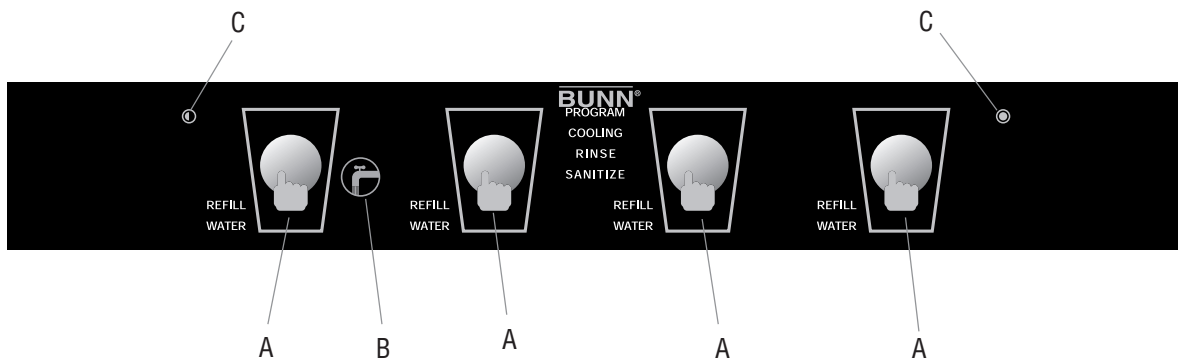
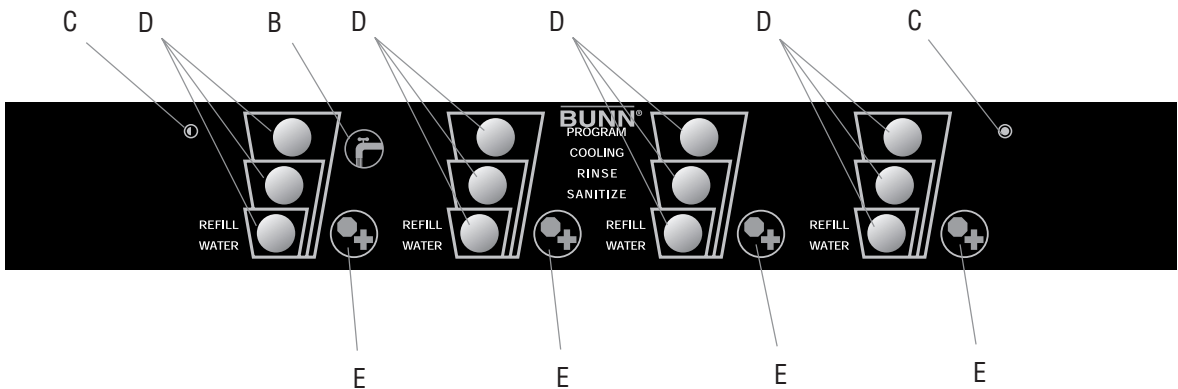

FIG 4 Press and Hold Models
FIG 5 Portion Control Models
Press and hold the "Product Dispense Switch" Fig 4, until concentrate dispenses from the dispense nozzle.
Press and hold the "+/STOP Switch" Fig 5, until concentrate dispenses from the dispense nozzle.
Press and Hold Models (Refer to Fig 4)
Portion Control Models (Refer to Fig 5)
5. Press and release the appropriate "Product Dispense Switch" Fig 4. This will initiate a timed rinse cycle. Portion control users can press any of the 3 "Product Dispense Switches" Fig 5, to initiate a timed rinse cycle.
5. Press and hold the "Sanitize Switch" Fig 4, located on the front left portion of the base, for 5 seconds. The "SANITIZE" indicator on the front panel will begin to flash and the beeper will sound twice indicating that you have entered the sanitize mode.